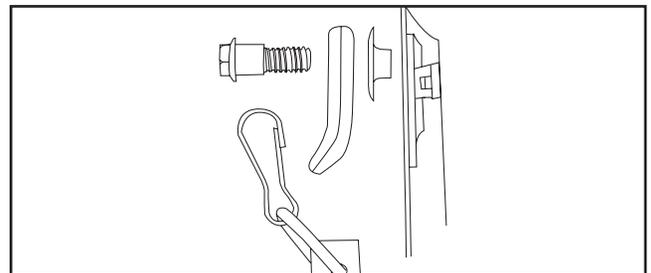

Figure 2.7.1 - Front mount baton components and install order
**For front mounted baton**, slide the plastic wedge through the slot in the carrier arm. Place the plastic baton hook over the grommet and screw in the screw to secure. See Figure 2.7.1.